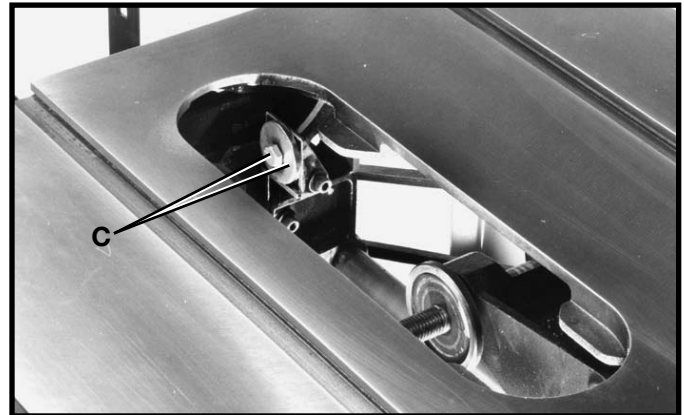

Fig. 29
3. Remove screw and large washer (C) Fig. 29, from the inside splitter mounting bracket.